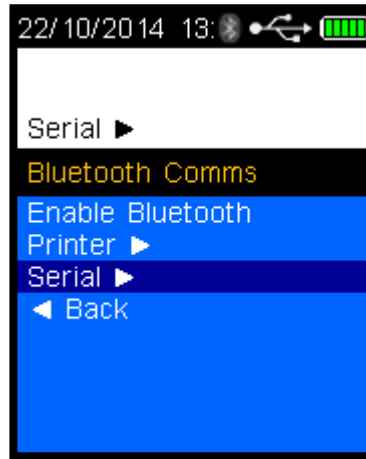

Figure 98 Serial Menu
- Press the down button until Serial is highlighted (Refer Figure 98).